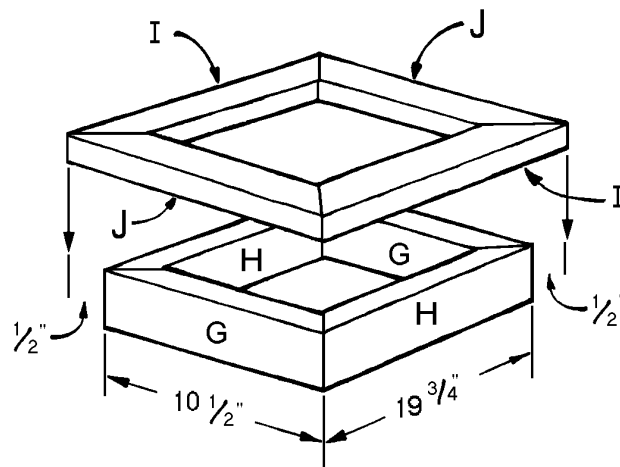

Figure 3
As shown in *Figure 3*, the base of the cabinet is an assembly of two mitered frames built from 2 x 4s. Note that the smaller frame on the bottom is made from the 2 x 4s standing on edge, and that the larger, upper frame is assembled with the 3-1/2" width placed horizontally. The top of the base extends 1 inch beyond the cabinet on the front and sides, and is flush with the cabinet in the back.
2. Cut two lower base side pieces (G) from the ripped 2 x 4, each measuring 10-1/2 inches long.
3. With each lower base side piece (G) standing on edge, miter both ends at a 45-degree angle.
4. Cut two lower base front/back pieces (H) from the ripped 2 x 4, measuring 22-1/2 inches long.
5. Again, stand the pieces on edge, and miter both ends of each of the lower base front and back pieces (H) at a 45-degree angle.
6. Assemble the two lower base front/back pieces (H) and the two lower base side pieces (G), matching the mitered corners, as shown in *Figure 3*. Glue and screw the corners together, using two 2-1/2-inch-long screws in each corner.
7. Cut two upper base front/back pieces (I) from full-width 2 x 4 pine, each measuring 21-3/4 inches long.
8. Setting each upper base front/back piece (I) on its face, miter both ends at a 45-degree angle, as shown in *Figure 3*.
9. Cut two upper base side pieces (J) from 2 x 4 pine, each measuring 11-1/2 inches long.
10. Again, with each piece on its face, miter both ends of each of the upper base side pieces (J) at a 45-degree angle, as shown in *Figure 3*.
11. Assemble the two upper base front and back pieces (I) and the two upper base side pieces (J), matching the mitered corners, as shown in *Figure 3*. Glue and screw the corners together, using one 2-1/2-inch-long screw in each corner.